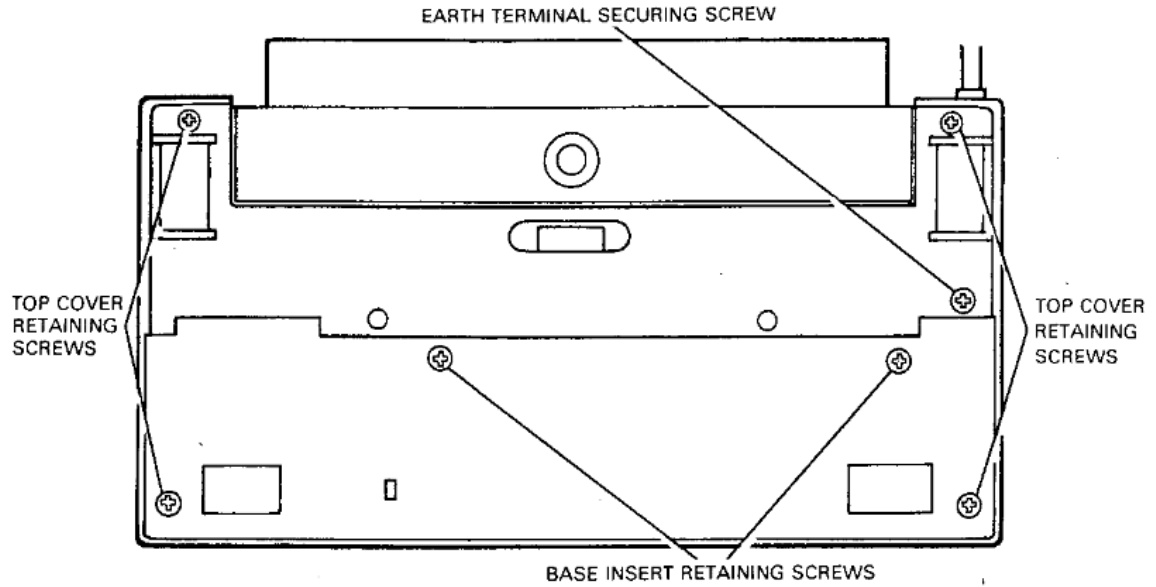

Figure 3 Top Cover & Base Insert Attachment Points
- b) Remove the four screws at the corners of the base (see Figure 3).